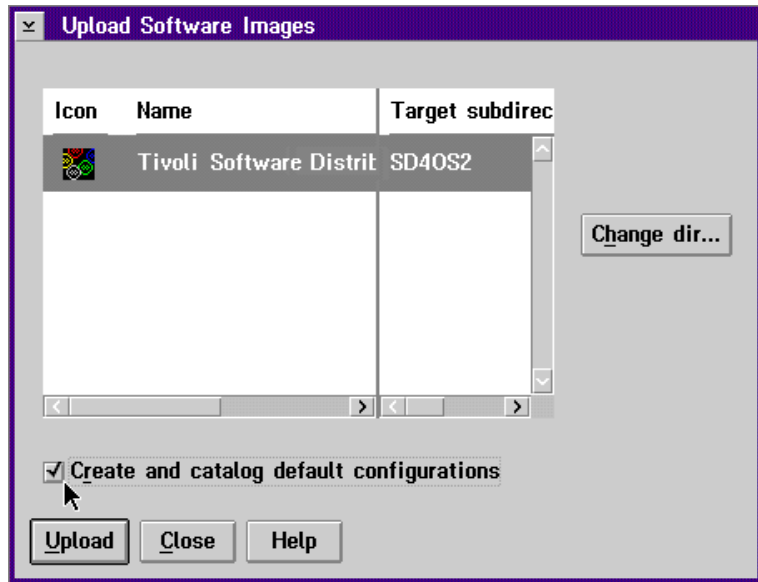

Figure 153. Upload software images window
- 3 The utility scans the diskette or CD-ROM for application definition files that contain all the information necessary to upload software images. The list of products is displayed in the Upload Software Images window, as shown in Figure 153 on page 228.
- 4 Select TME 10 Software Distribution for OS/2. Check the Create and catalog default configurations check box to create the server, client, and mobile client software object to upgrade the components. Then click on **Upload** as shown in Figure 153.